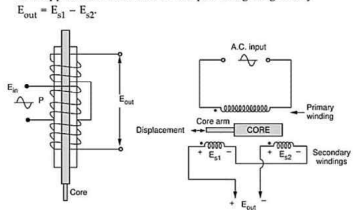

Fig. Q.10.1 Linear variable differential transformer
• The linear variable differential transformer consists of a single primary winding P_1 and two secondary windings S_1 and S_2 wound on a hollow cylindrical former. Refer Fig. Q.10.1. The secondaries have an equal number of turns but they are connected in series opposition so that the e.m.f.s induced in the coils oppose each other and the output voltage is given by